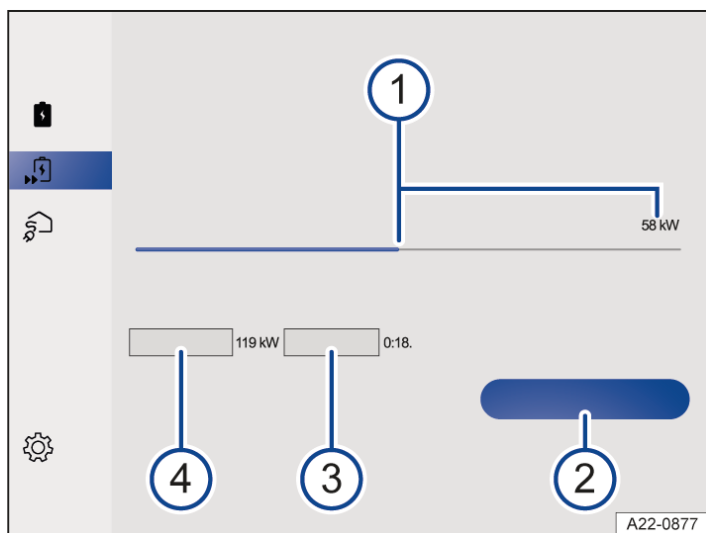

Fig. 1 Infotainment system: menu for optimising the current DC charging capacity.
- ① Current DC charging capacity in kW.
- ② Start or stop heating of the high-voltage battery.
- ③ Required time until maximum DC charging capacity.
- ④ Maximum possible DC charging capacity.
The coloured bar in the middle of the screen shows the optimisation potential for the DC charging capacity → Fig. 1 ①.